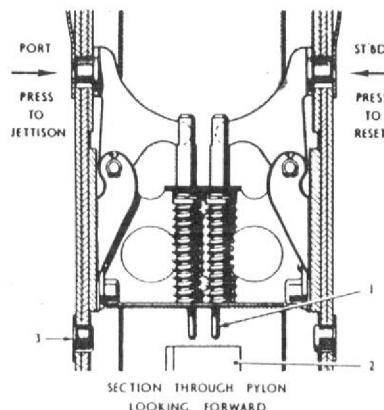
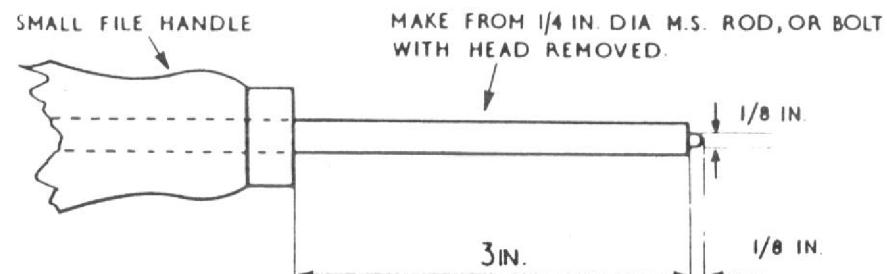

Fig. 5 Jettison and reset mechanism (Inboard pylon)
Fig. 6 Tool for operating jettison and reset button
- (1) Disconnect the armament safety break in the port wing.
- ◀ (2) Remove the Chekaleke plugs (3, fig.5) from the sighting holes on the port and starboard sides of the pylon and check that a gap exists between the top of the release housing (2, fig.5) and the bottom of the plungers (1, fig.5) and that this gap does not exceed 0.10 in.
To avoid damage to the jettison and reset mechanism it is essential that only a tool similar to that illustrated in fig.6 is used to operate the jettison and reset buttons. After operation, an inspection must be made to ensure that the buttons have returned to their normal position, which is 0.10 in. below the skin level of the pylon.
- (3) If the electro-mechanical release unit (9) is not open, press the jettison button (3) (shown also on fig.5), on the port side of the pylon, using a tool, similar to that shown in fig. 6, and then reset by pressing the reset button on the starboard side of the pylon. (Should the electro-mechanical release be already open, only the reset button on the starboard side should be used.)
- ◀ (10) Apply the final crutching load by using a torque wrench (Ref. 1L/171) set to 80 ± 2 lbf ft attached to the adapter on the crutching spanner. Check again through the sighting holes in the pylon that a gap exists between the top of the release housing (2, fig.5) and the bottom of the plungers (1, fig.5) and that this gap does not exceed 0.10 in. Replace the Chekaleke plugs (3, fig.5).
- (11) Re-check that the release unit is fully cocked by means of the cocking test socket and test set, and close the rear door.
- (12) Remove the torque wrench and crutching spanner and replace the access panel in the wing.
- (13) Immediately before flight, replace the Armament Safety break